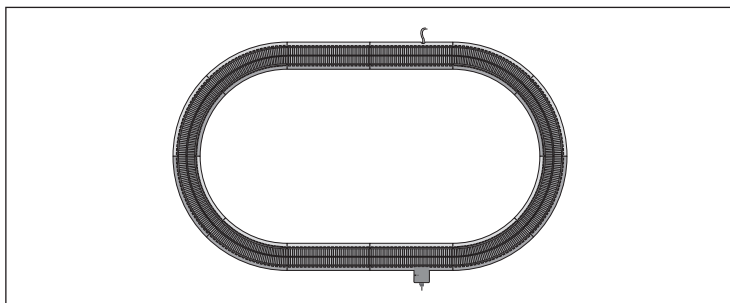

Figure 2. Track layout
**Y**our set comes with eight O36 curved sections, two 10" straight sections, one wall-pack terminal section of track, and one 10" Plug-Expand-Play power lock-on track section. Figure 2 shows the oval layout that you can build with these track sections. You may choose to add more FasTrack track sections to create an endless number of exciting track arrangements for more fun, action, and variety.